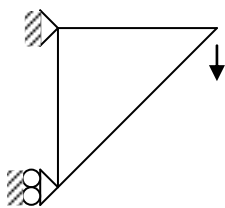

Figure 1.
2. (i) If the original bracket problem is modified to look like Figure 1, sketch the expected shape when loaded.